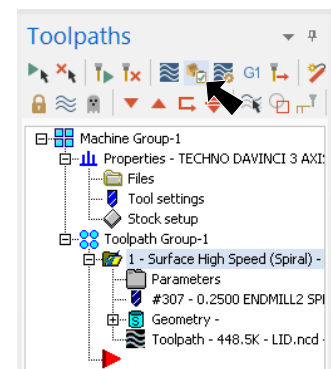

Fig. 67
Step 1. Click **Verify**  in the Toolpaths Manager, **Fig. 67**.
Step 2. Click **Play**  (R) in VCR bar.